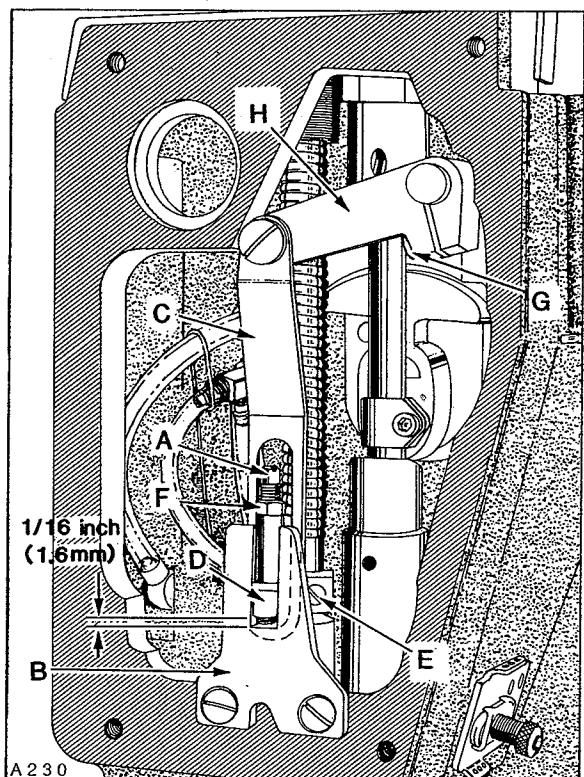

Fig. 24
With needle bar at bottom of stroke and presser foot resting squarely on throat plate, there should be a minimum clearance of $1/64$ inch (.4mm) between the bottom of screw (A, Fig. 24) and bottom of slot in presser bar guide plate (B). At this time, there should be at LEAST $1/32$ inch (.8mm) clearance between bottom of presser bar guide and top of lower presser bar bushing.